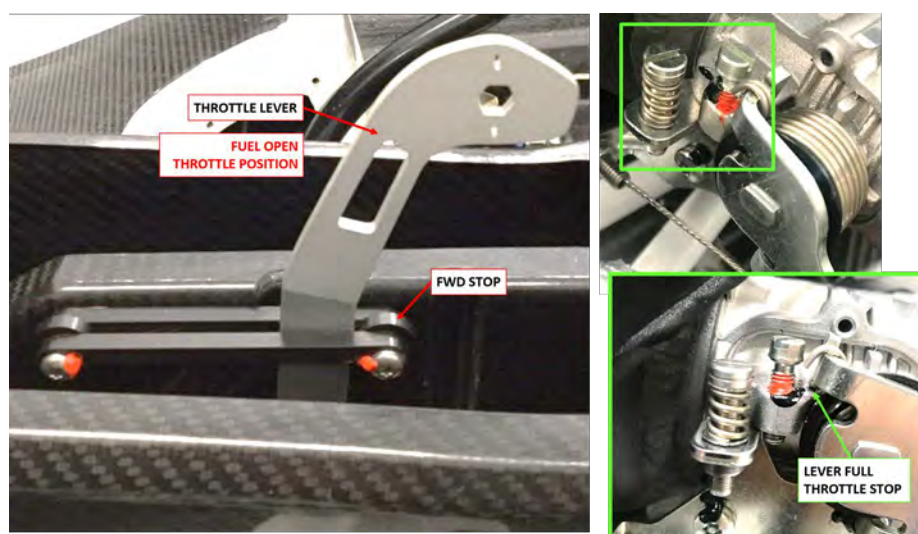

FIGURE 17-23
- In cockpit, move throttle handle to full throttle position (FWD stop). At engine, ensure the lever full throttle stop contacts the throttle body before the throttle handle contracts the FWD stop. (See Figure 17-23.)